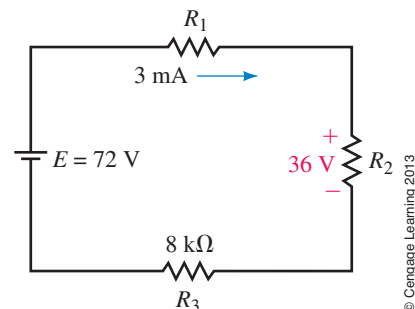

FIGURE 5–64
21. Refer to Figure 5–15. Determine the value of the series resistance given the following circuit parameters: